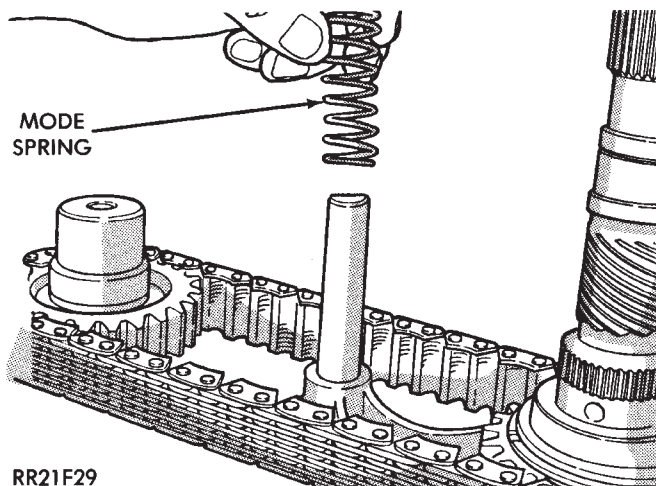

Fig. 69 Install Mode Fork Spring
(5) Install mode spring on upper end of mode fork shift rail (Fig. 69).